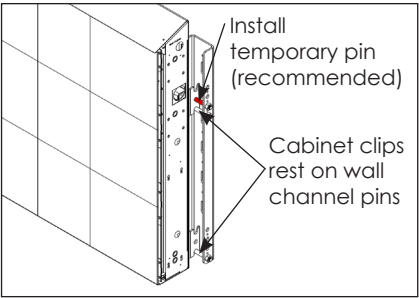

Figure 4: Hook Cabinet on Wall Channel Pins
- 5. Center the cabinet on the wall channel with the cabinet clips hooked on the wall channel pins. It is recommended to install a temporary pin while lifting the adjacent sections. Refer to **Figure 4**.